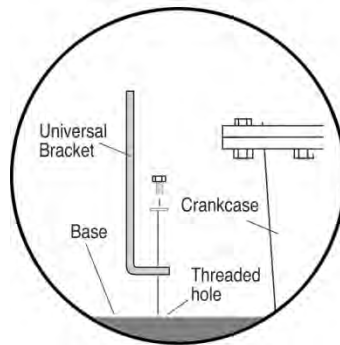

Figure 3A
1. Install the universal bracket to the base as shown in Figure 3A using two split lock washers and two 5/16 inch dia. bolts or others as necessary.